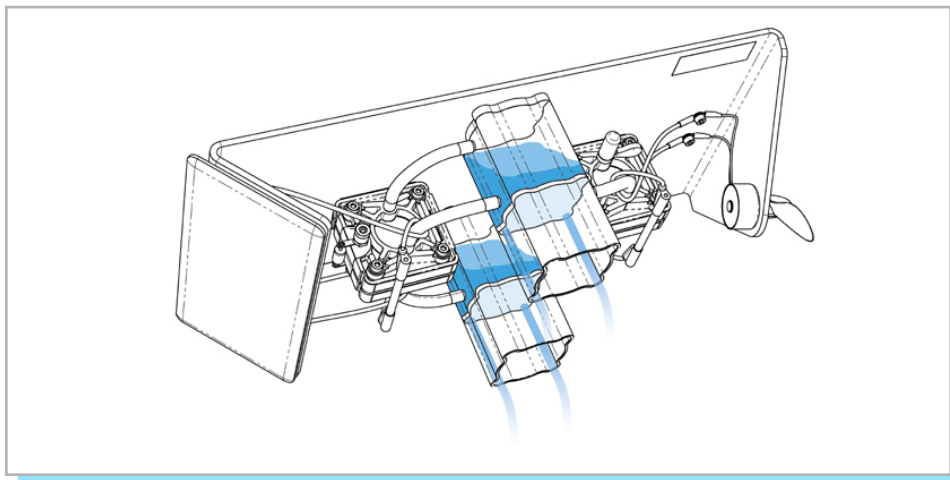

Fig. 7: Draining the gas storage tanks
- Drain the gas storage tanks, as shown in Figure 7.